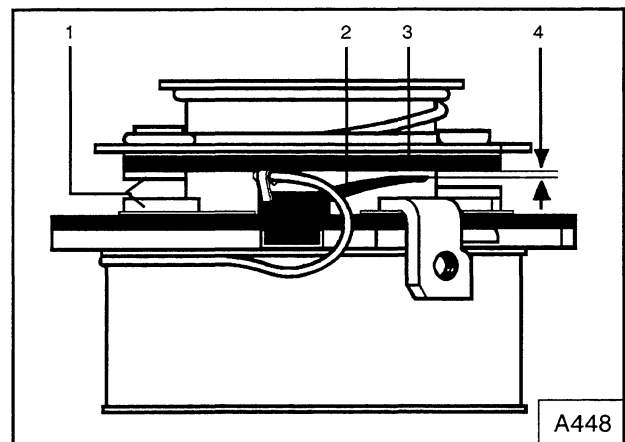

Fig. 9 Leaf spring contact setting
4.3.3 Setting the leaf spring contact. (See Fig. 9)